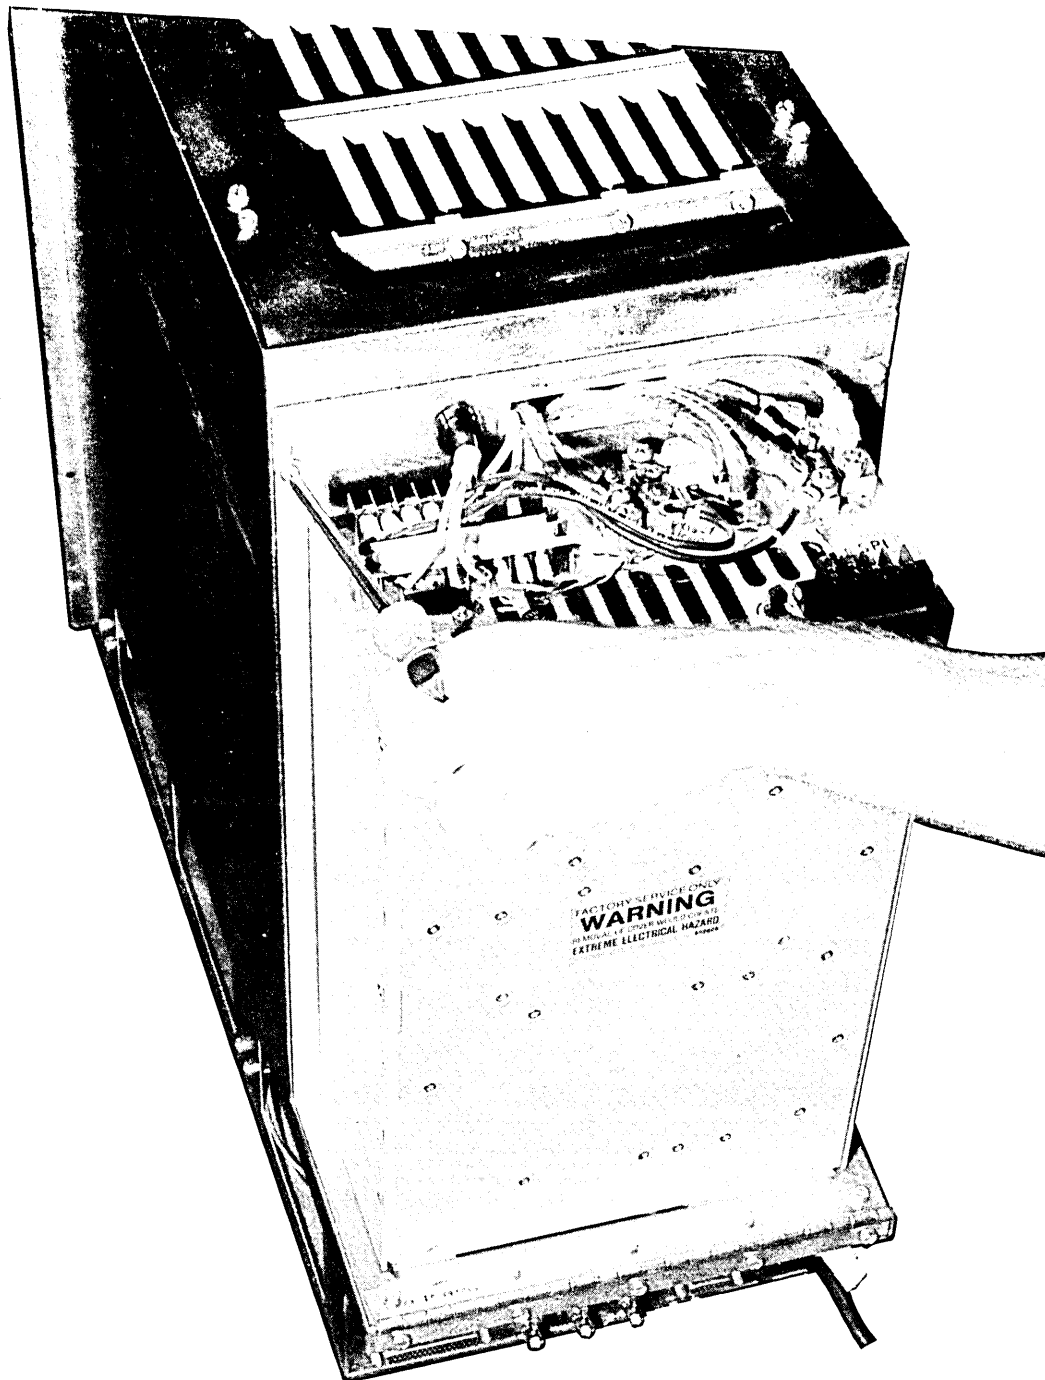

Figure 5-37. Detaching Power Supply Mounting Bracket from Display Generator Chassis Assembly
5. See figure 5-37. Remove two screws holding the power supply mounting plate against the rear of the card cage housing. Note the hinge at the bottom of the supply.